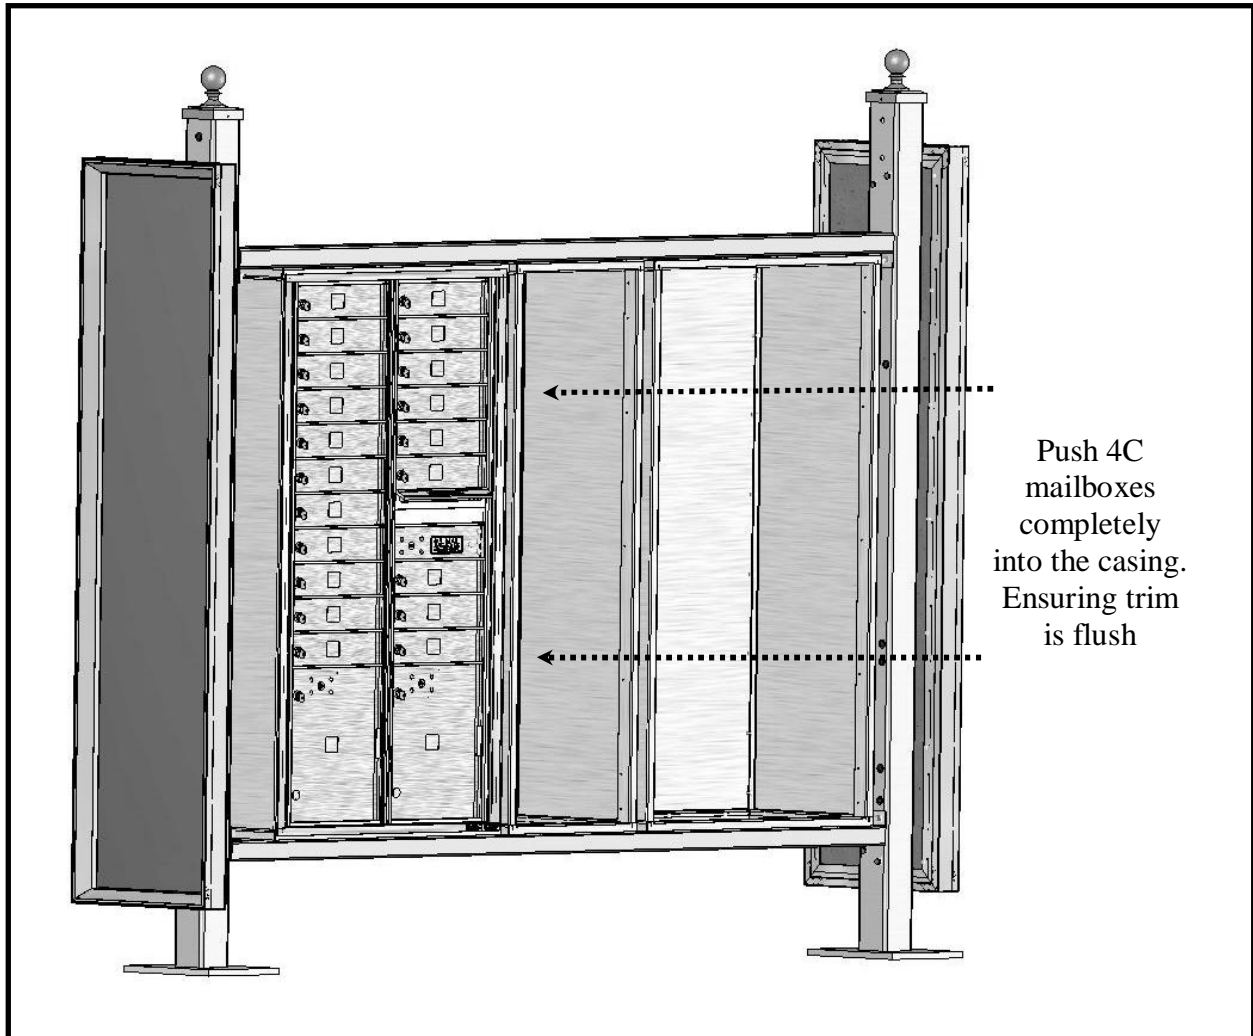

Figure 35 – 4C installation
- b) Tilt the top of the 4C mailbox completely into the casing. Make sure the mailbox trim is flush against the front of the casing. *See Figure 35.*